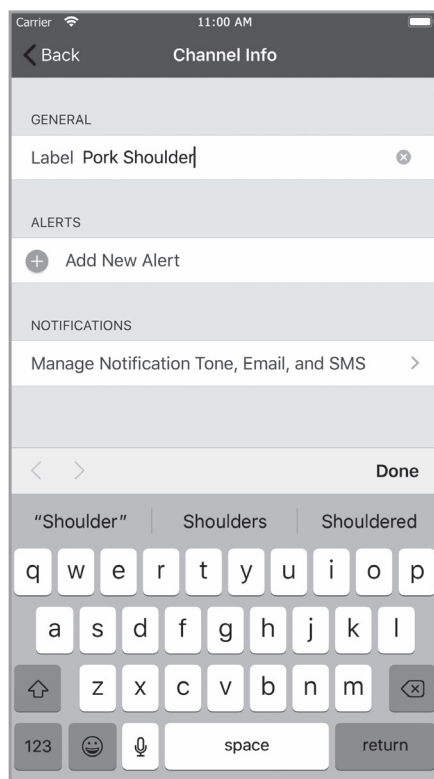

FIG 14
- The names of the two probe ports can be set according to what you're cooking. Tapping on the probe port in the grey banner will allow you to change its name (**FIG 14**). This name will also be used in the various charts throughout the app.
- An alert – in the form of an app alert, an SMS text message, or an email – can be set to let you know when one of the meat probes are at a certain temp. Simply tap on the temperature shown for the probe in the grey banner, tapping "Add New Alert," then "Set Up Alert" and set up your parameters (**FIG 14, 15**).